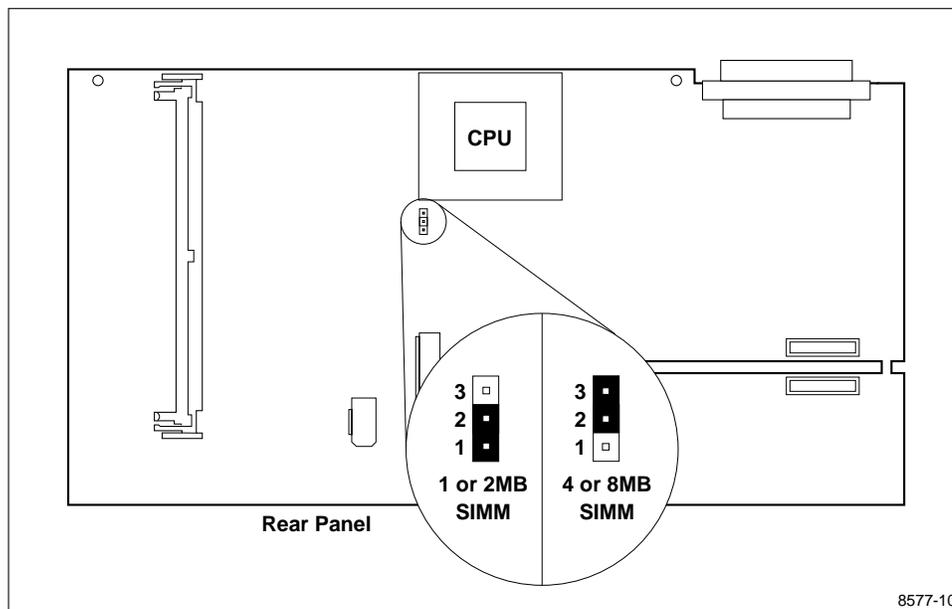
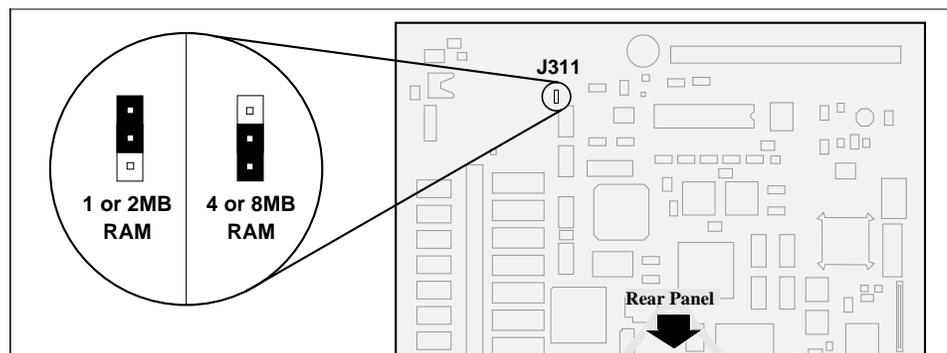

Figure 9. Memory Size Jumper Setting on the XP10 Main Logic Board
Figure 10. Memory Size Jumper Settings on the XP10T Main Logic Board
8. Install the memory size jumper as shown in Figure 9 for the XP10 Main Logic board, or in Figure 10 for the XP10T Main Logic board. There is no jumper to install on the XP100 Main Logic board.